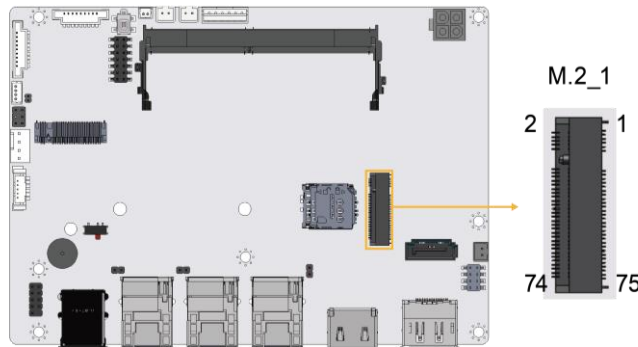

Figure 3-33: iDPM Slot Location
- CN Location:** See Figure 3-33